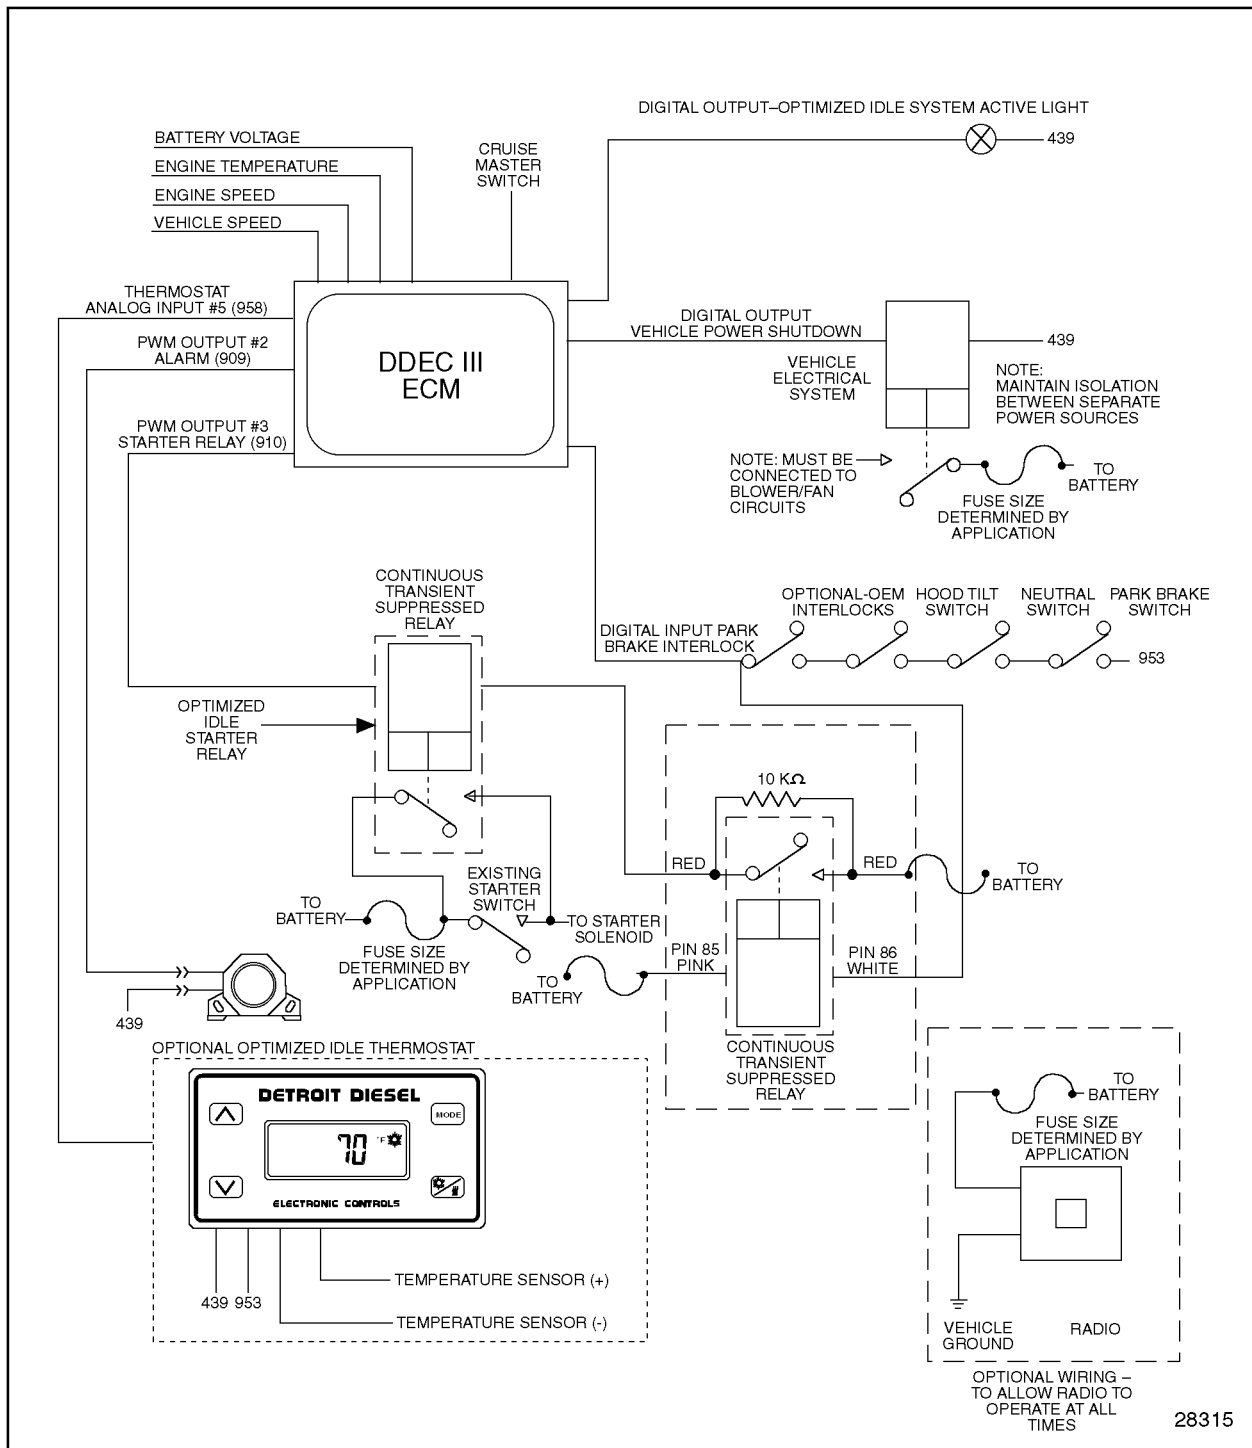

Figure 10-11 Optimized Idle Schematic
2. Measure the resistance across the hood switch contacts with the hood closed. See Figure 10-11.